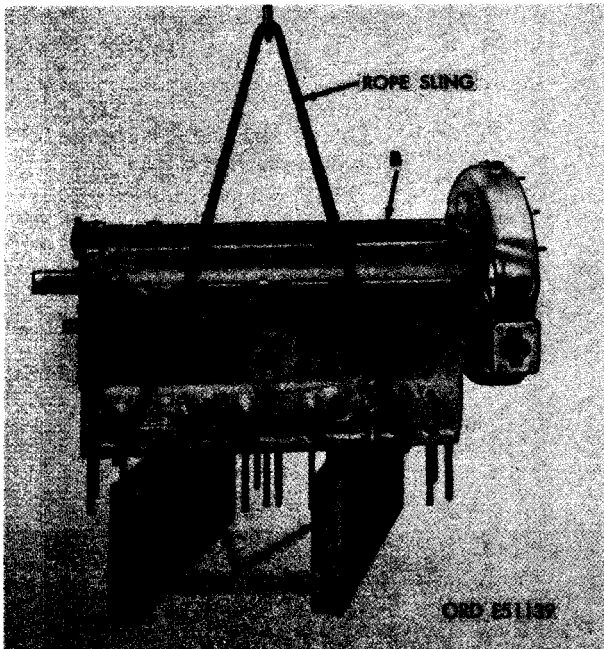

FIGURE 298. STRIPPED ENGINE POSITIONED ON SUPPORT BLOCKS.
- (2) Figure 298. (A) Position support blocks between cylinder head studs as shown. (B) Lower engine assembly on blocks and remove sling.